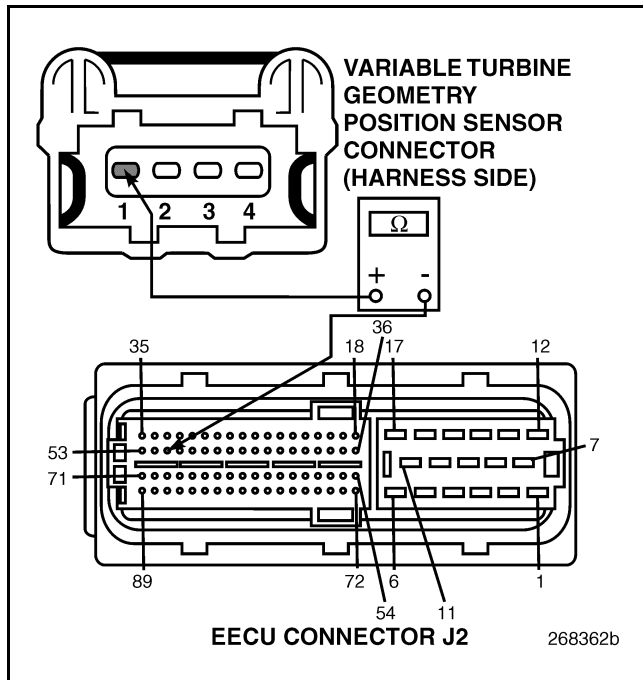

Figure 500
4. Check for continuity between VTG Position Sensor harness connector pin 1 (signal line) and EECU harness connector J2 pin 51 (see Figure 500).